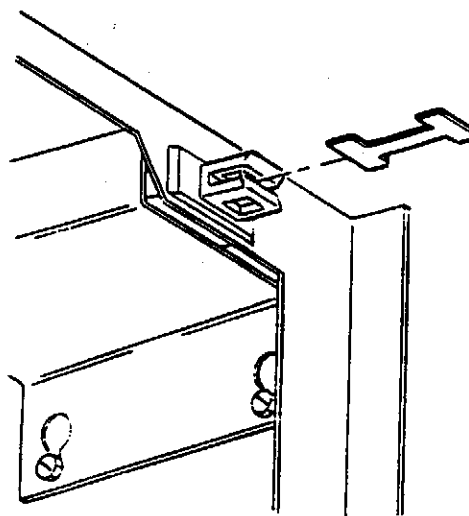

FIGURE 2
5. Plug the machine into a 220/240V 13A receptacle. Insert the plastic key into the door isolation switch (Fig. 2). Check that the tank starts to fill and that there are no leaks. The machine is equipped with a safety feature-if the inlet water valve is on for more than 90 seconds it will put the machine 'OUT OF ORDER'. Therefore to complete the filling of the heater tank you may have to power down-power up the control board to reset the 90 second timer.